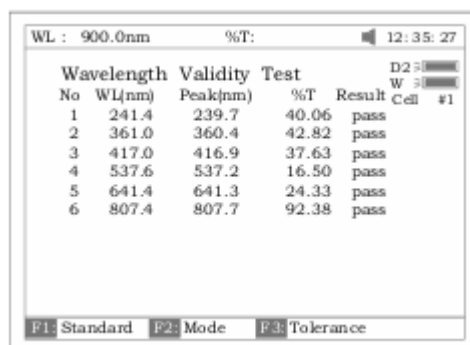

Fig.99
6. Put the sample (calibrated holmium liquid) into the Main Light Path. Press **【START】** to check. The results will be displayed on the screen (Fig 99). If the discrepancy between the results and the calibrated values is not more than the tolerance, "pass" will be displayed after the test results. Otherwise, "fail" will be displayed.